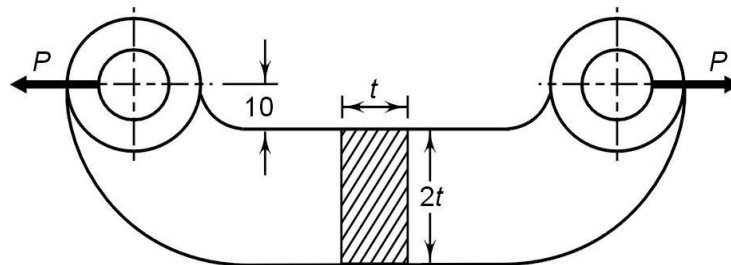

Fig.1
- (c) An offset link subjected to a force of 25 kN is shown in fig.1. It is made of grey cast iron FG300 ($S_{ut}=300$ MPa) and FOS is 3. Determine the dimensions of cross-section of the link. **07**